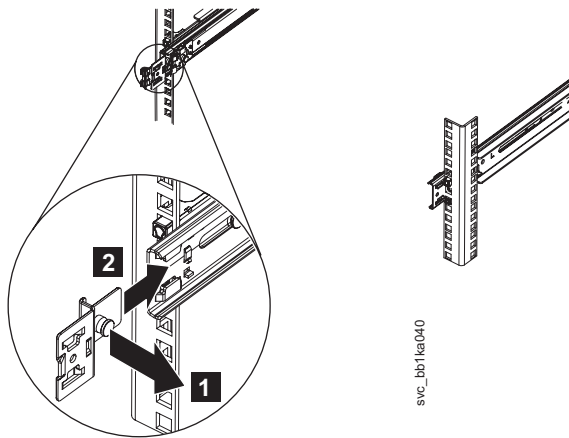

Figure 19. Rack rear: Installing the SAN Volume Controller 2145-CF8 cable-management arm mounting bracket
4. To install the cable-management arm assembly, you must place the cable-management arm mounting bracket into the same slide rail onto which you installed the cable-management support arm. The cable-management support arm is not shown in Figure 19. Push the blue latch on the cable-support-arm stop bracket **1** to slide the mounting bracket **2** into the left slide rail. Push the bracket into the slide rail until the bracket snaps into place.